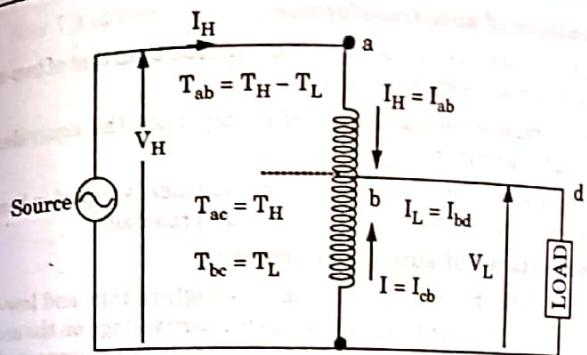

Fig. 4.21.1. Step-down auto-transformer.
2. Consider a single winding abc of Fig. 4.21.1. The terminals a and c are the high-voltage terminals. The low-voltage terminals are b and c where b is a suitable tapping point.